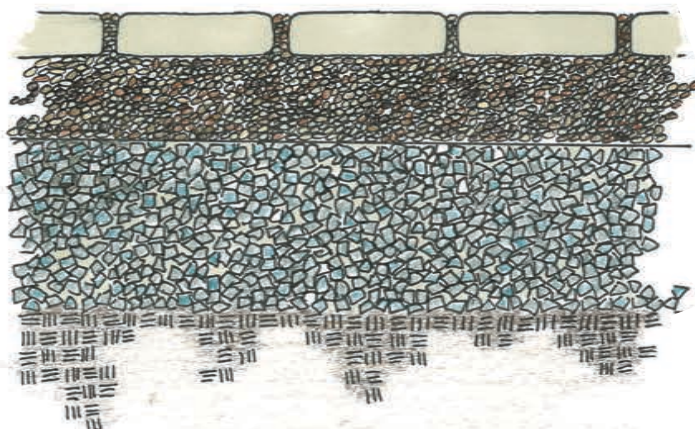

Figure 1 – Pervious walkway profile.
- b. Sub-base materials (Figure 1) are the $1\frac{1}{2}$ -inch stone and pea stone layers that go under the pavers. These materials provide a reservoir for stormwater before it soaks into the ground underneath. You should have a minimum depth of 12 inches of $1\frac{1}{2}$ -inch diameter washed stone and six inches of $\frac{3}{8}$ -inch pea stone for your sub-base. Use the following equations to determine the minimum amount of sub-base materials you will need (multiplying by 0.037 converts cubic feet to cubic yards):